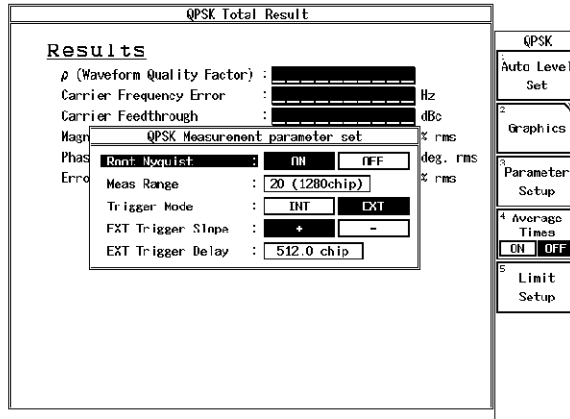

Figure 6-14 Setting of Parameter for W-CDMA Measurement Test
5. On the R3267/73, set the parameter referring Figure 6-14.